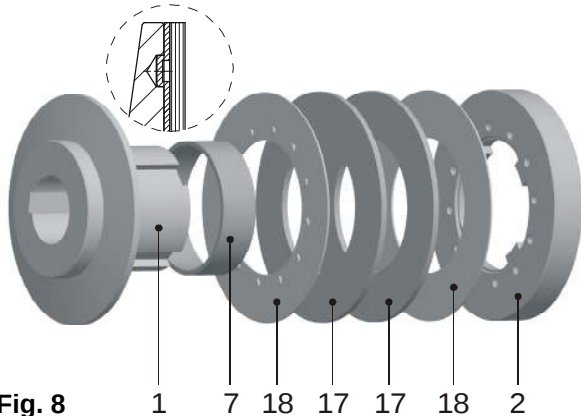

Fig. 8
This rustproof friction lining pairing consists of two stainless steel discs (item 18), anchored in the slip hub, and of two special friction linings (item 17) which cannot stick (Fig. 8).